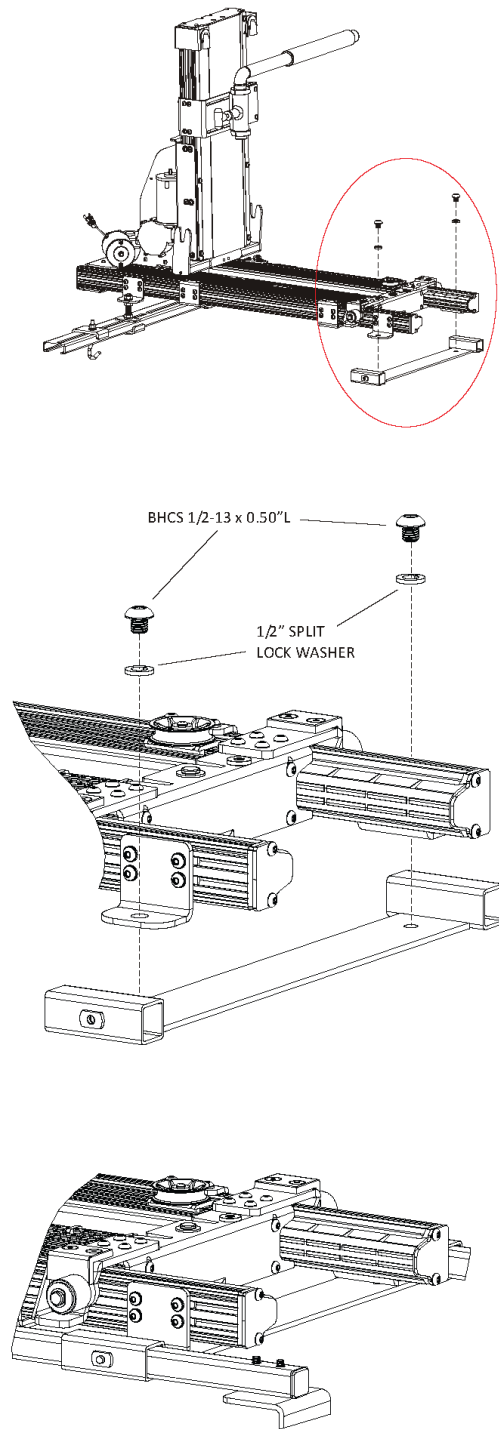

Figure 4-34
10. Mount lift to BA25 foot plate. Insert two each 1/2" lock washers and 1/2-13 x 1/2" long bolts into the L-shaped mounting brackets and thread directly into the foot plate. See Figure 4-34.